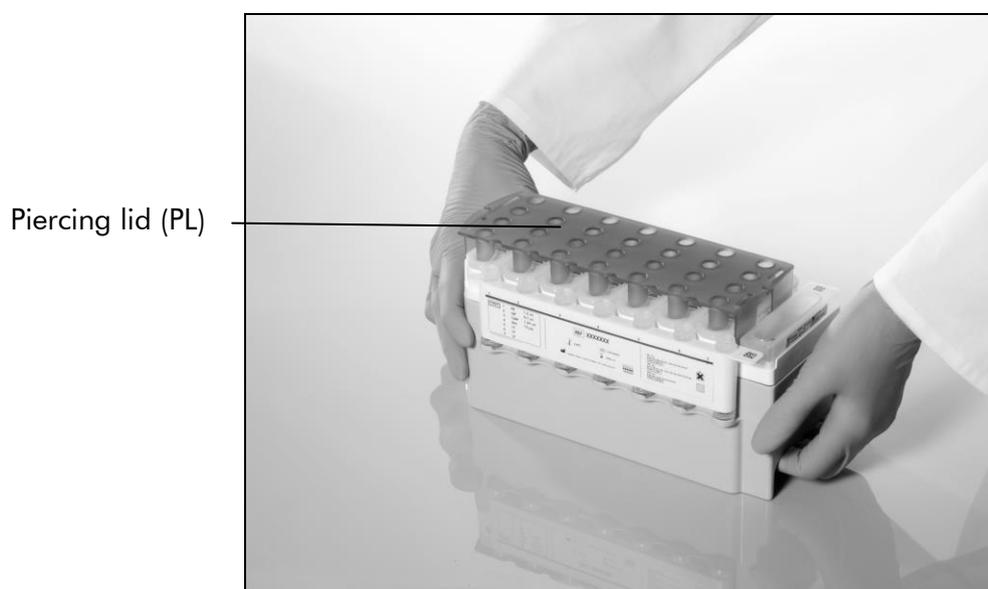

Figure 3. Easy worktable setup with reagent cartridges (RC).
frame, vortex it vigorously for at least 3 minutes, and replace it in the reagent cartridge frame before the first use. Place the reagent cartridge (RC) into the reagent cartridge holder. Place the empty enzyme rack (ER) into the reagent cartridge holder. Before using a reagent cartridge (RC) for the first time, place the piercing lid (PL) on top of the reagent cartridge (RC) (Figure 3).